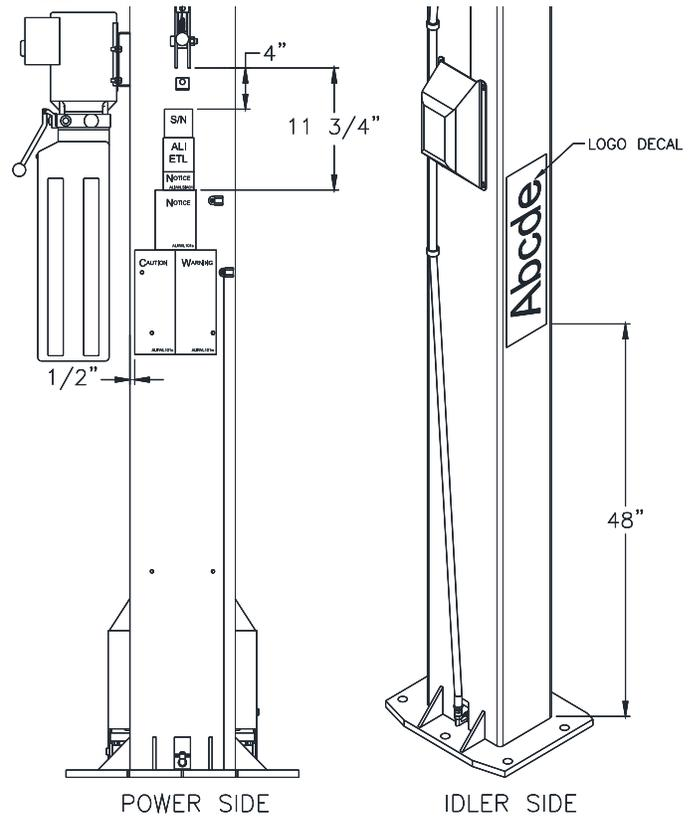

Fig. 12 – Safety & Logo Decal Placement
- 44) Apply the Safety Decals (Pg. 3) 48" above the base plate on the power column and the Logo Decal 48" above the base plate on the idler column. **Fig. 12.**